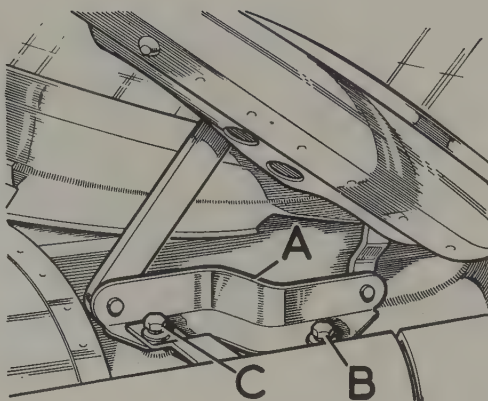

Fig. 12.30. Bonnet hinge detail
- 2 Disconnect the screen washer hose from the bottle. With the assistance of a second person take the weight of the bonnet (it is made of aluminium so it is not very heavy but take care because it is easily scratched or damaged). Undo the two retaining bolts to each hinge and lift away the bolts, spring and plain washers. These are located as shown in Fig. 12.30.